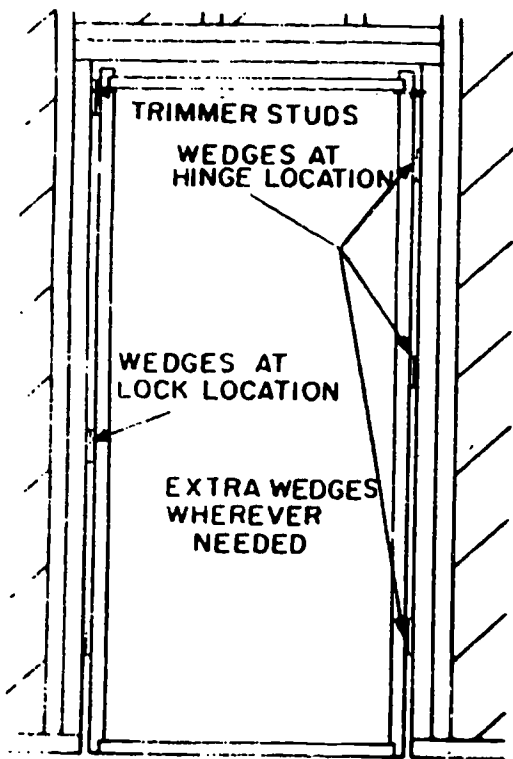

Figure 24. Adjusting a Door Frame
- Place wedges along both sides of the jamb keeping the frame approximately center of the opening at key stress points, as shown in Figure 24.